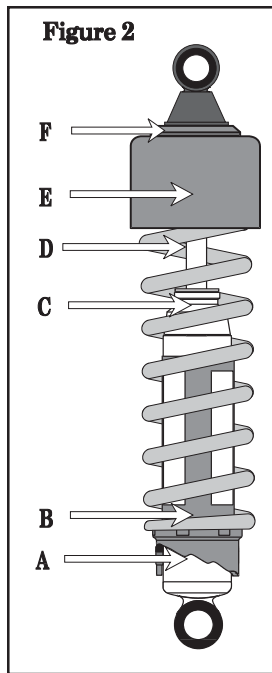

Figure 2
5. Spring Installation (see figure 2):